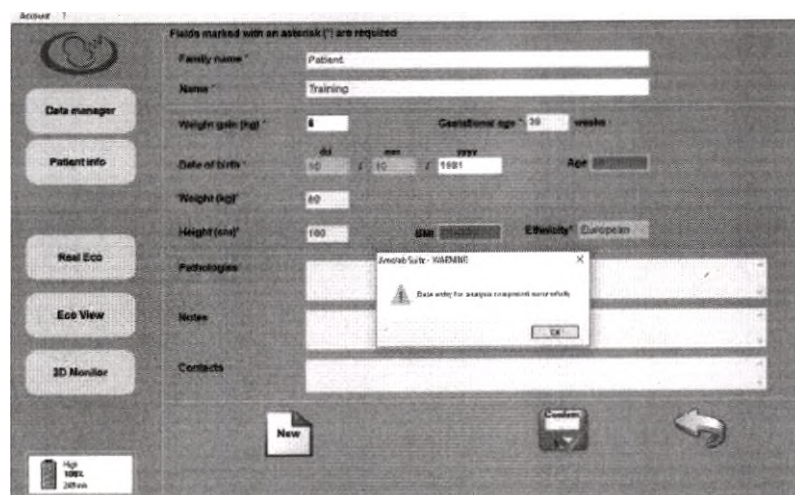

Figure 50. The alert window «Data entry for analysis completed successfully».
2.4. At the end of data entry, an alert window «Data entry for analysis completed successfully» will inform that the data has been entered correctly (Fig. 50):